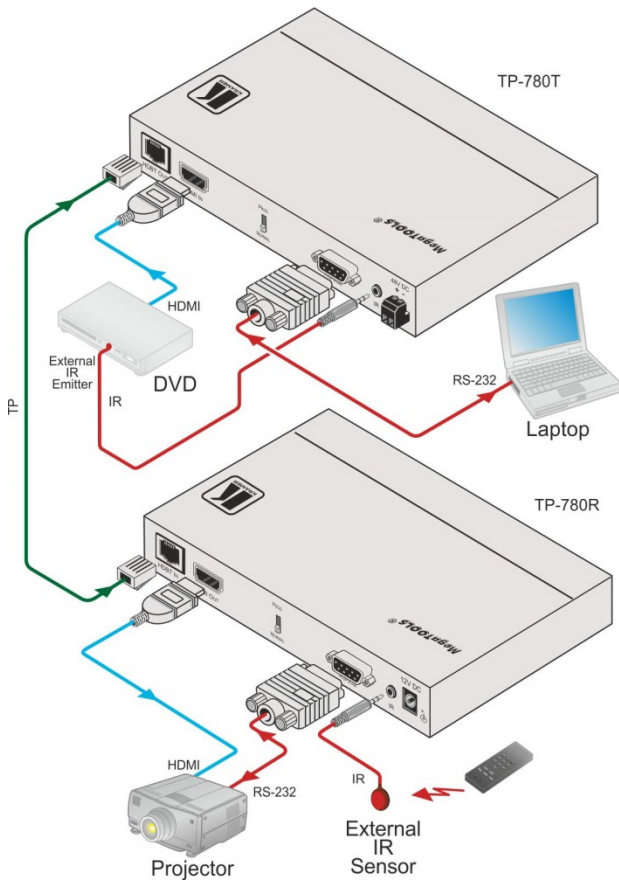

Figure 3: Connecting the TP-780T/ TP-780R Transmitter/Receiver Pair
You can use the **TP-780T/R HDMI Line Transmitter/Receiver + POE** to configure an HDMI transmitter/receiver system, as shown in the example in Figure 3.
5. 48V DC power adapter to the power socket and connect the adapter to the mains electricity (not shown in Figure 3).
5. If the POE does not effectively power the **TP-780R**, connect the 12V DC power adapter to the power socket and connect the adapter to the mains electricity (not shown in Figure 3).